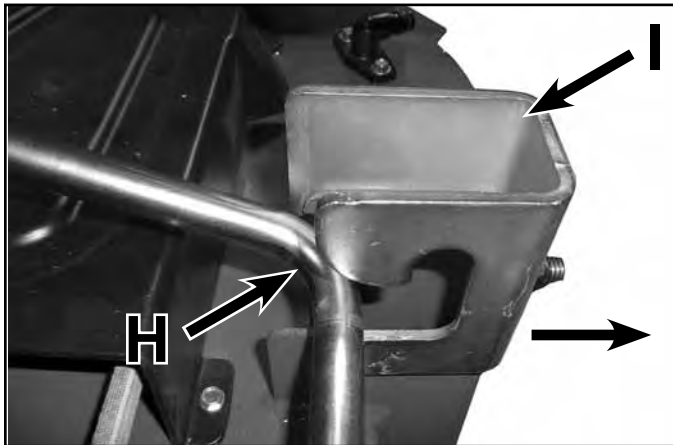

Fig. 028
5. Slightly lift rear of the deck and slide it rearward to fully release the rear lift arm (H) from the deck hanger brackets (I) (Fig. 028).
4. Once aligned, install the (2) bolts and (2) nuts that attach the pivot blocks (D) to main frame. Torque bolts to specification – 17 ft-lbs. (23 Nm).
5. Slightly lift the rear of the deck and slide the deck forward. Fully engage the rear lift arm (H) into the deck hanger brackets (I) (Fig. 028 and Fig. 030).
6. Slide the lift links (D) onto the deck lift posts. Install the (2) washers and (2) pins that secure the lift links to the deck lift (E).
7. Install the front support rod (L) into the deck bracket using clip and washer (K).